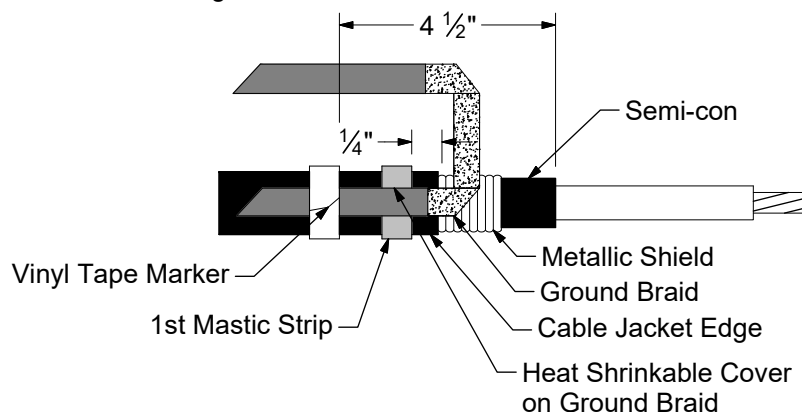

Figure 3A
3. Position a pre-formed ground braid (Stock #17 54 306) with the "U" section over the metallic shield directly adjacent to the cable jacket cut edge. Position one tail of the ground braid over the cable jacket with the heat-shrinkable covering in contact with the mastic strip. Secure the tail to the cable jacket 4-1/2" from the edge of the semi-con using vinyl tape. NOTE: Position the vinyl tape with care since it also serves as a marker for positioning the terminator. See Figure 3A.